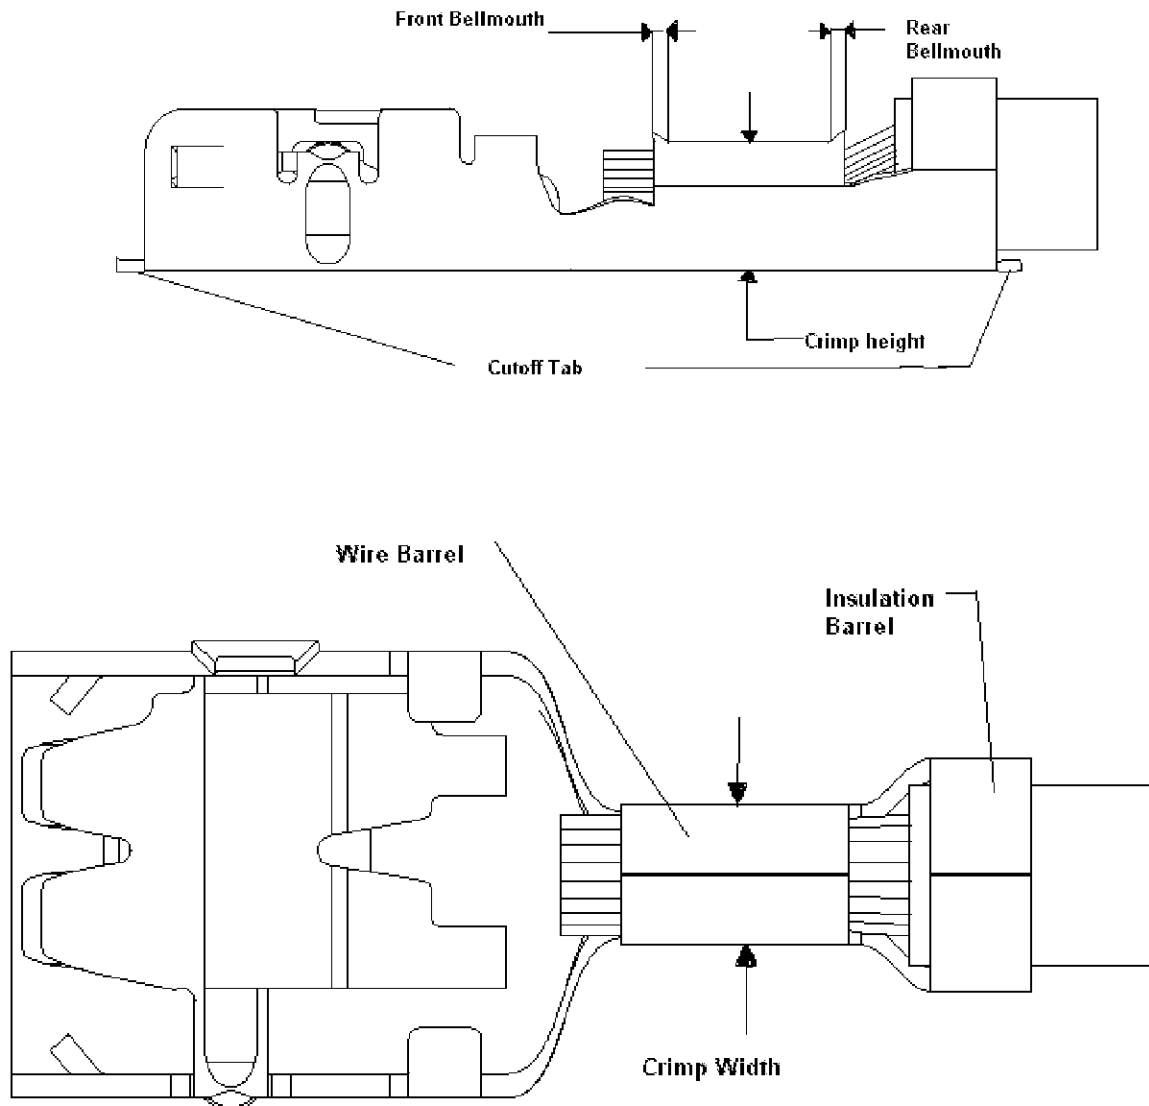

Fig.2
- Insulation shall be stripped as indicated in Figure 2 and its length shall be of 4,8 mm.
(1) Crimp height fine adjust head applicator
- The contact, including the cut-off tab and burr shall not be bent above or below the datum line more than the amount shown in figure 2.